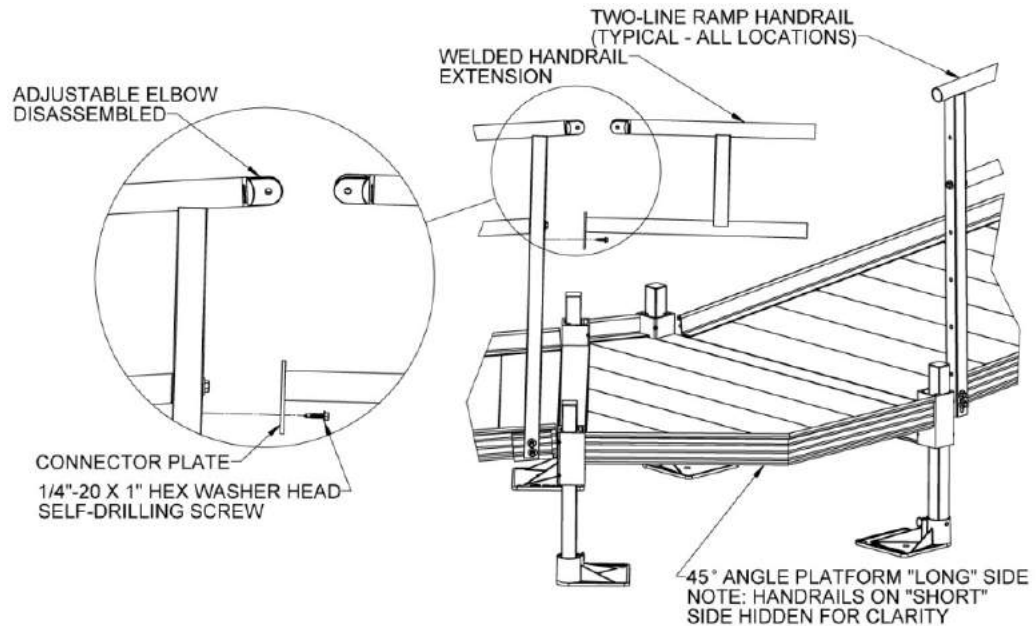

FIG. 4.18
- 4.8.8. Insert one half of the elbow into the ramp handrail and the other half into the leg of the handrail extension above the connector plate (FIG. 4.18).
- 4.8.10. Secure the connector plate to the ramp handrail post using a 1/4"-20 x 1" hex washer head self-drilling screw (FIG. 4.18).